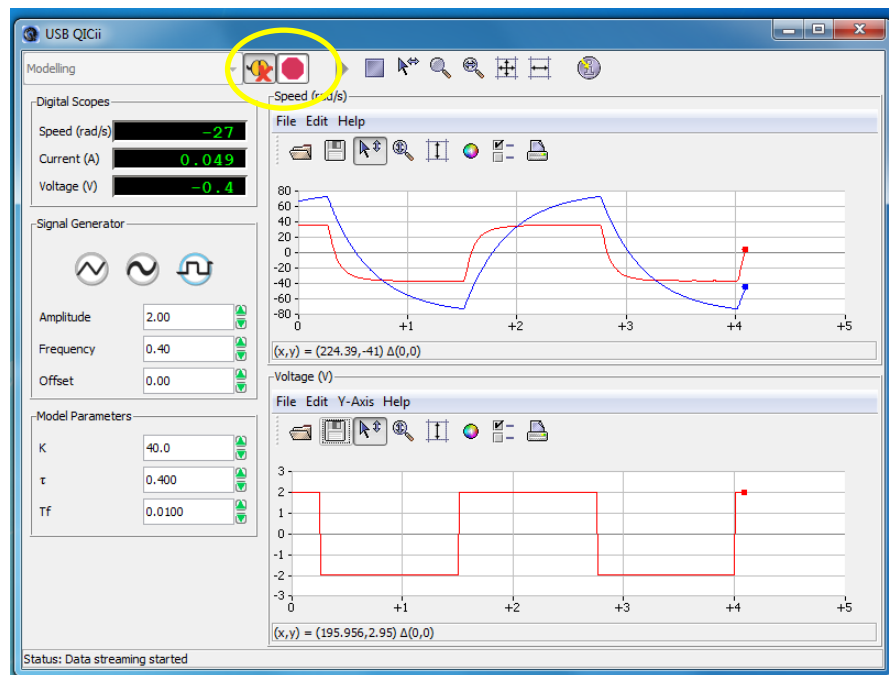

Figure 2. QICii software running in Modelling mode. The yellow highlight shows the buttons for connect/disconnect to data-source (left) and run/stop (right).
2. Press the white reset switch (11) - LED2 and LED3 will briefly light, then LED2 goes off and LED3 will flash (see next to User Switch, 12). If not, repeat this step, check cables etc.
5. Connect to data source (see Figure 2). LED2 should light and the motor should start. In case of any problem go back to step 2
Creating Model 2 takes more explanation, but it is very simple and based on recorded data. Open Matlab-Simulink and load the data from the file **LabData.mat**. It was saved from the test run of Figure 2, where there was no added load on the rotor. Saving in QICii captures the previous 10 seconds of data from when save is selected; the saved data was captured a little later than that shown in the figure, but the results are equivalent. Plot the data and check that it agrees with the